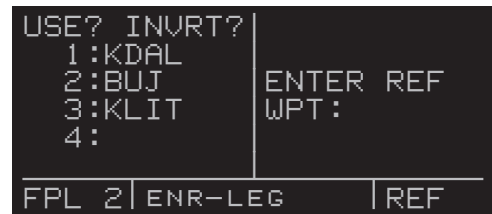

Figure 5-87
2. Display the desired flight plan on the left side (figure 5-87). The Reference Waypoint feature may be used on the active flight plan or on any of the 25 numbered flight plans that contain at least two waypoints.